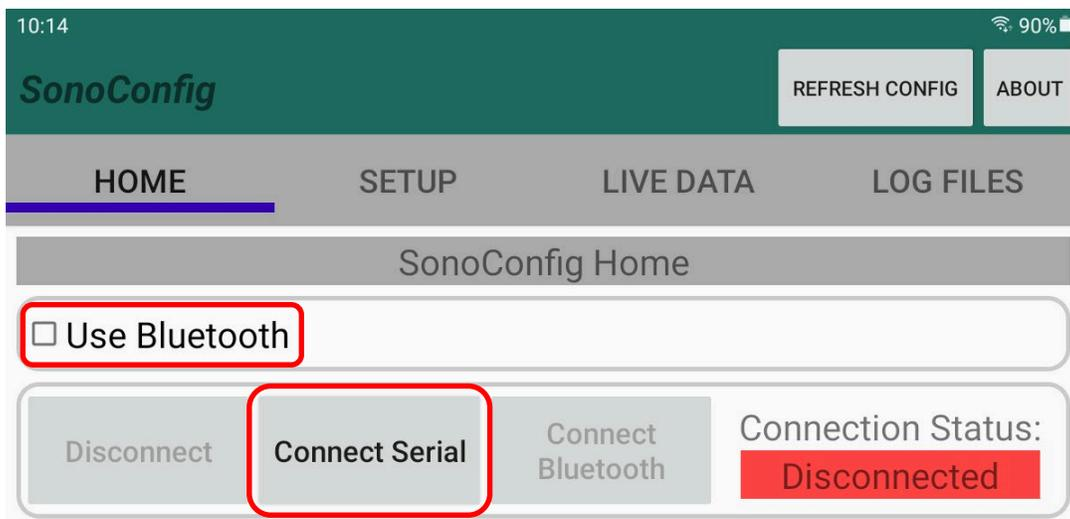
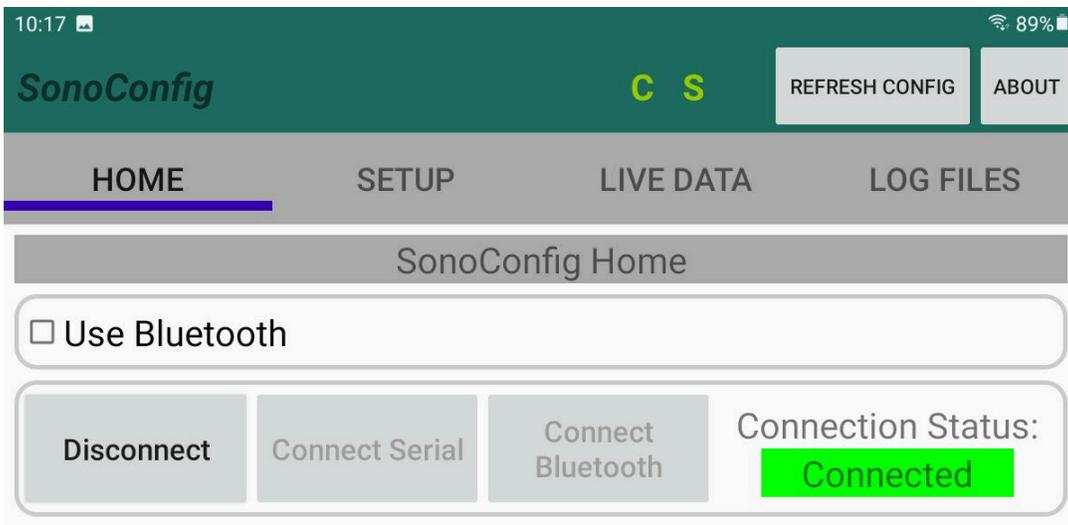

Figure 1: Home Screen Default Prior to Connection
Figure 2: Serial Connection Established
After opening SonoConfig App, from the HOME page, establish a connection to the SonoPro using a Serial Connection or Bluetooth (Optional) as shown in Figures 1, 2, and 3.
- a. For Serial connection, connect the tablet or device to the SonoPro the provided OTG and USB cables between the tablet serial port and the SonoPro serial port. Leave the “Use Bluetooth” option unchecked, and click the “Connect Serial” button as shown in Fig 1. When the connection is established, the HOME screen should indicate a GREEN connection status and show an “S” in the top banner to indicate that a serial connection has been established. These are highlighted in Fig 2.